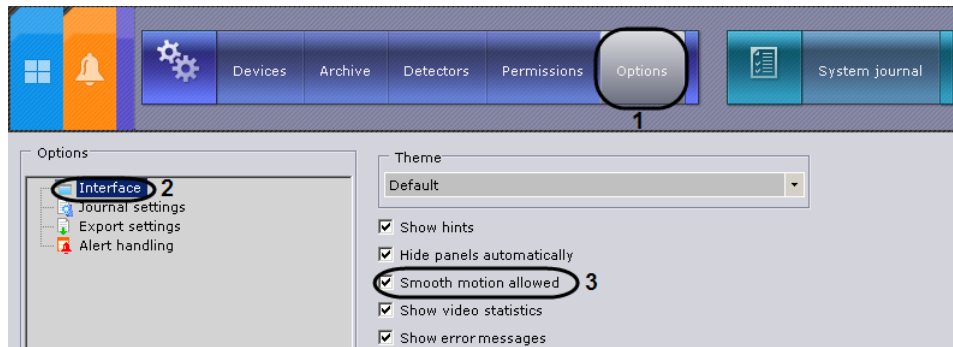

Fig. 6.8—5 Configuring smooth motion
1. Go to **System settings**⇒**Options**⇒**Interface** (Fig. 6.8—5, 1-2).
2. Deselect the **Smooth motion allowed** checkbox (see Fig. 6.8—5, 3).